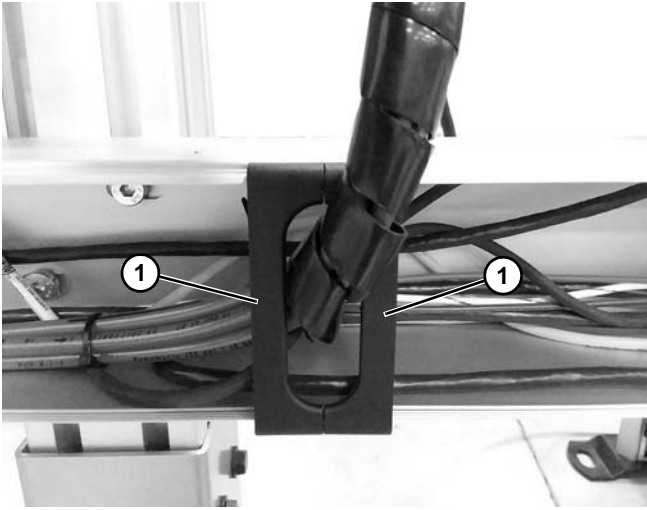

Figure 20
18. Insert cable entry protection covers (**Figure 20, item 1**) at the point where the cable enters the enclosure.